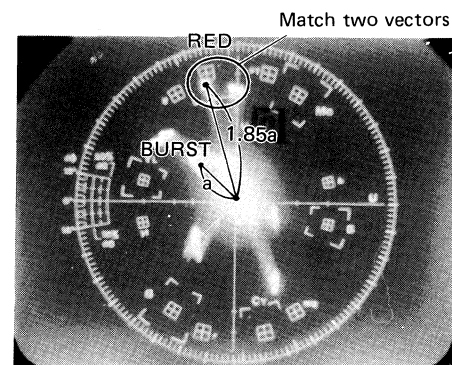

Fig. 4-2-56
- Adjust BURST GAIN VR22 so that the burst level becomes 75% on the vectorscope. (Fig. 4-2-56)
- Adjust CHROMA GAIN VR21 so that the red vector becomes 185% as compares to the burst signal on the vectorscope. (Fig. 4-2-56)